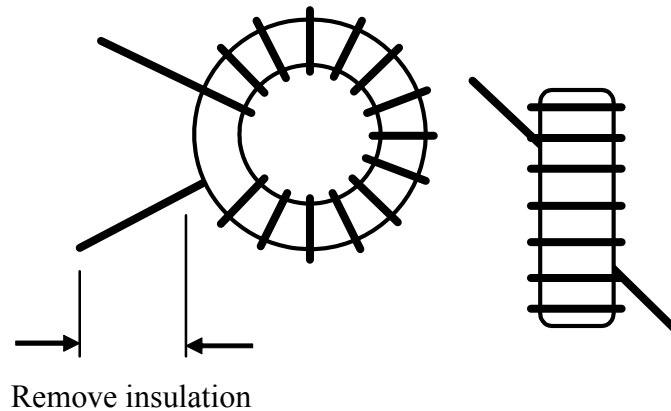

Figure 6-15
Find RFC14's component outline on the RF board, near the front left-hand corner. Compare this component outline to Figure 6-15, which shows two views of a typical toroidal inductor. RFC14 will be mounted vertically as shown at the right side of the drawing, with one wire exiting at the core's upper left, and the other at the lower right. There are pads on the PC board in these two locations.
To wind RFC14, cut a 9" (23 cm) length of #26 red enamel-coated wire, then "sew" the long end of the wire through the core exactly 10 times. *Each pass through the core counts as one turn.* The finished winding should look very similar to Figure 6-15, but with 10 turns rather than 14.
- Strip and tin the leads of the toroid before you mount it on the board. As shown in Figure 6-15, you should remove the enamel from the leads up to about 1/8" (3 mm) from the core. You should see only bare wire (no insulation) on the side to be soldered.
Wind the first winding, 1-2, using 16 turns of red enamel wire (15", 38 cm). This winding must occupy 85% of the core, and will look very similar to Figure 6-15. Remember that each pass *through* the core counts as one turn.